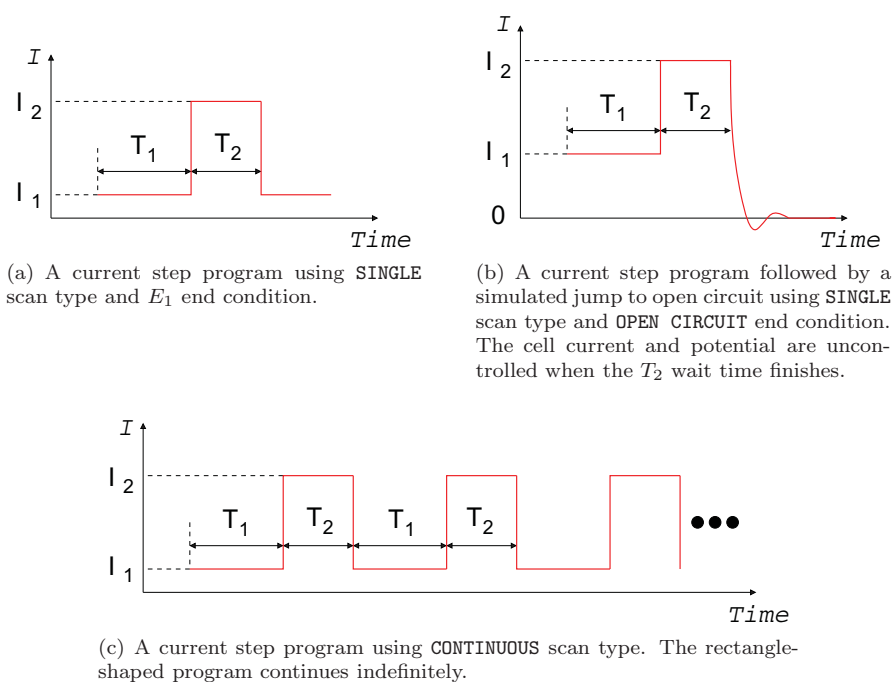

Figure 25: Parameters used to set up a step scan.
Figure 25 illustrates the parameters needed to specify a current step scan. The procedure is as follows:
3. Choose the scan end condition. Figure 25(a) illustrates the cell potential for the I_1 end condition, while 25(b) shows it for **OPEN CIRCUIT**. If the end condition is **OPEN CIRCUIT**, the cell potential will be free to drift after the T_2 wait time. If the condition is I_1 , the potential will immediately return to I_1 .
4. Choose **SINGLE** or **CONTINUOUS** scanning. Single scans, illustrated in figures 25(a) and (b), go to the end scan condition after the T_2 wait time. Continuous scans, illustrated in figure 25(c), step back to I_1 after the T_2 wait time and repeat the entire step program indefinitely.